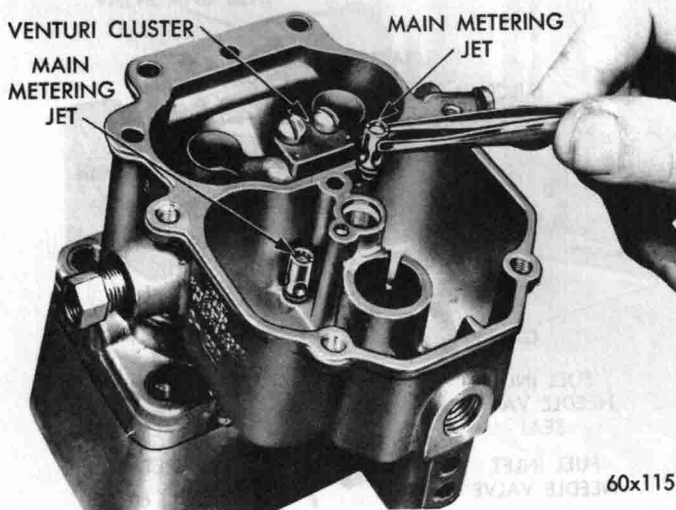

Fig. 8—Removing or Installing Main Metering Jets
(9) Remove the main steering jets and gaskets, as shown in Figure 8.
(13) Install the main metering jets and gaskets, Tighten securely. (Fig. 8).